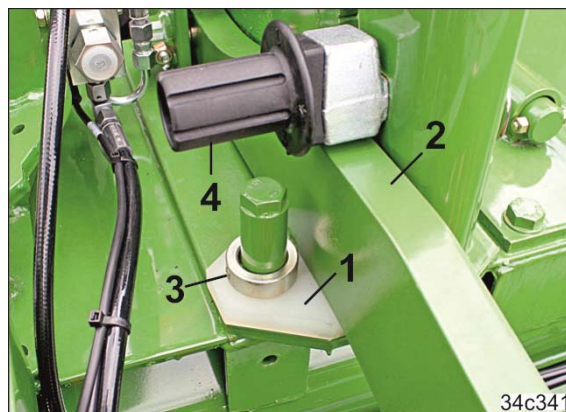

Fig. 91
3. Fasten two dampers (Fig. 91/1) with setting rings (Fig. 91/3) under the carrying arms (Fig. 91/2) on the soil tillage implement. The dampers are more easily installed when the roller is not coupled with the soil tillage implement.
4. Secure the depth setting pins (Fig. 91/4) in the adjuster segment right at the bottom and secure with linch pins.